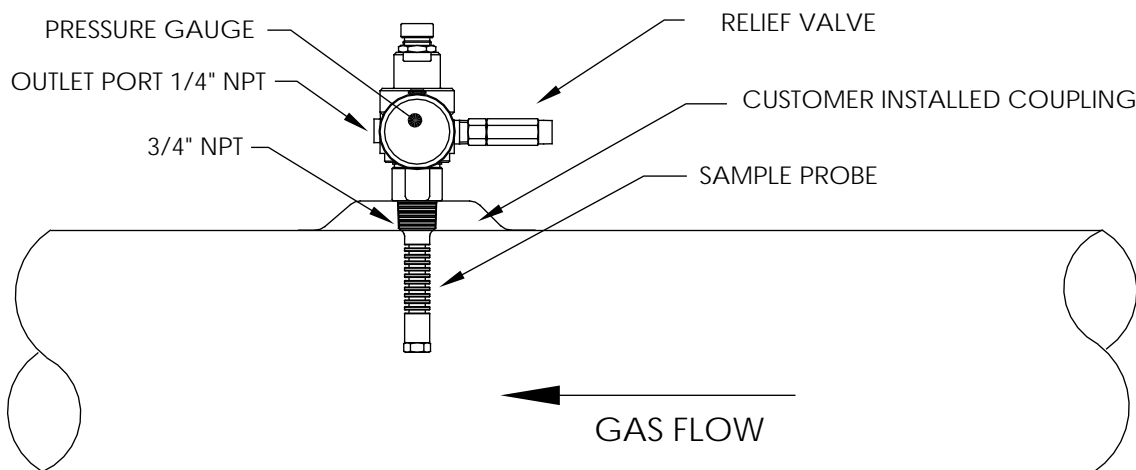

Figure 3-4 Sample Probe Insertion
- 6) Insert gas probe into pipeline coupling (see Figure 3-4).